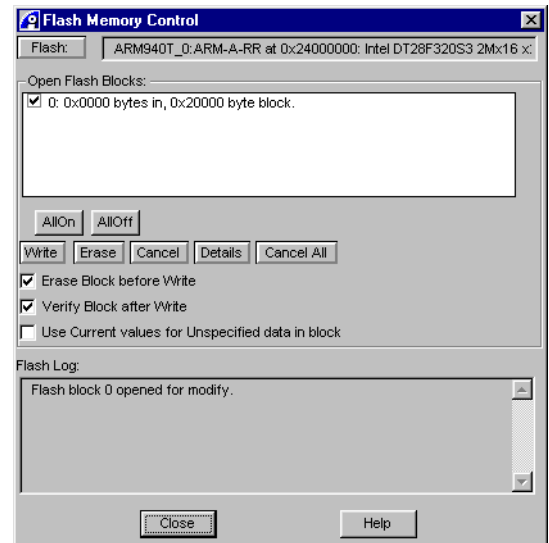

Figure 3-41 The Flash Memory Control dialog
3. Click **Open** in the Load File to Target dialog. The Flash Memory Control dialog appears, shown in Figure 3-41.